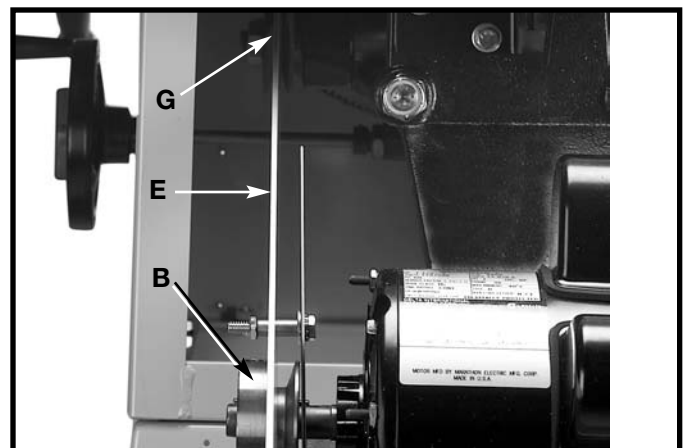

Fig. 18
6. Use a straight edge (E) to align the motor pulley (B) Fig. 18 with the arbor pulley (G). If necessary, adjust the motor pulley (B) in or out on the motor shaft. **Tighten the four hex nuts that fasten the motor to the motor mounting plate.** See section "ASSEMBLING MOTOR TO MOTOR MOUNTING PLATE".